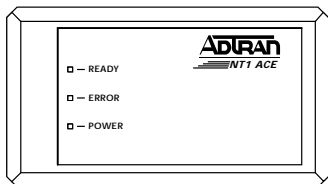

Figure 1. ADTRAN NT1 ACE
The ADTRAN NT1 ACE provides a basic rate interface between customer ISDN terminal equipment (TE) and the ISDN network (U). Figure 1 is an illustration of the NT1 ACE.